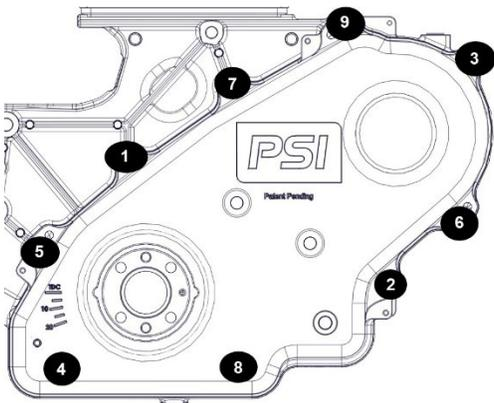

Figure 4.
9. Ensure the alignment pin is at 3 o'clock and that the alignment flange is oriented correctly over the alignment pin (Figure 4).